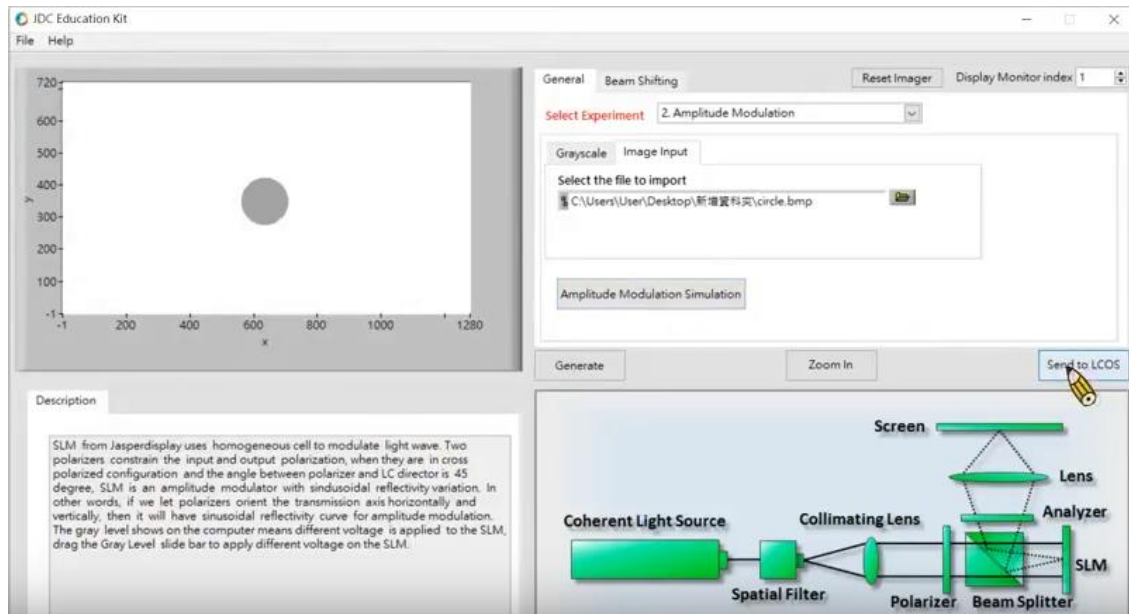

Figure 4
2. Open the EDK software. Select 1 for the Monitor Index in the upper right corner. Select experiment to 2. Amplitude Modulation. Select the Image Input tab, then select the file to import, and press the Generate button, you can see the result shown in Figure 4. Then press the Send to